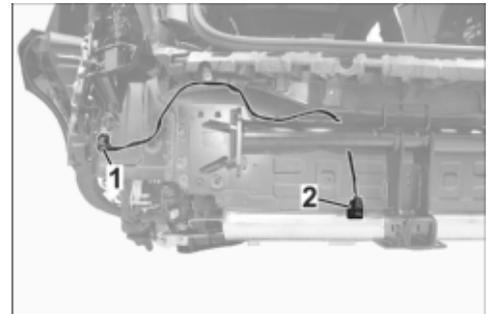

Figure 4
- 2.3 Fit trailer tow hitch cable harness to rear retaining strip. ⇒ *Figure 4*
- 2.4 Remove blank plug from rear wall and route trailer tow hitch wire harness to trailer tow hitch control unit holder. ⇒ *Figure 4 -1-*